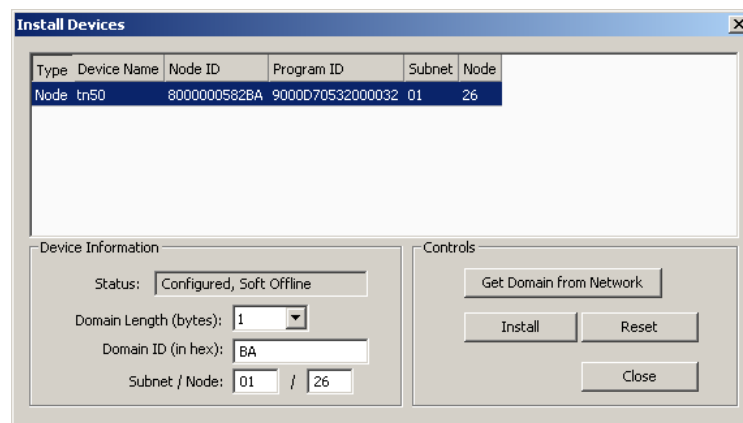

Figure 114: Install devices dialog.
- Click the **Install** button. This opens the **Install Devices** dialog as shown in Figure 114.